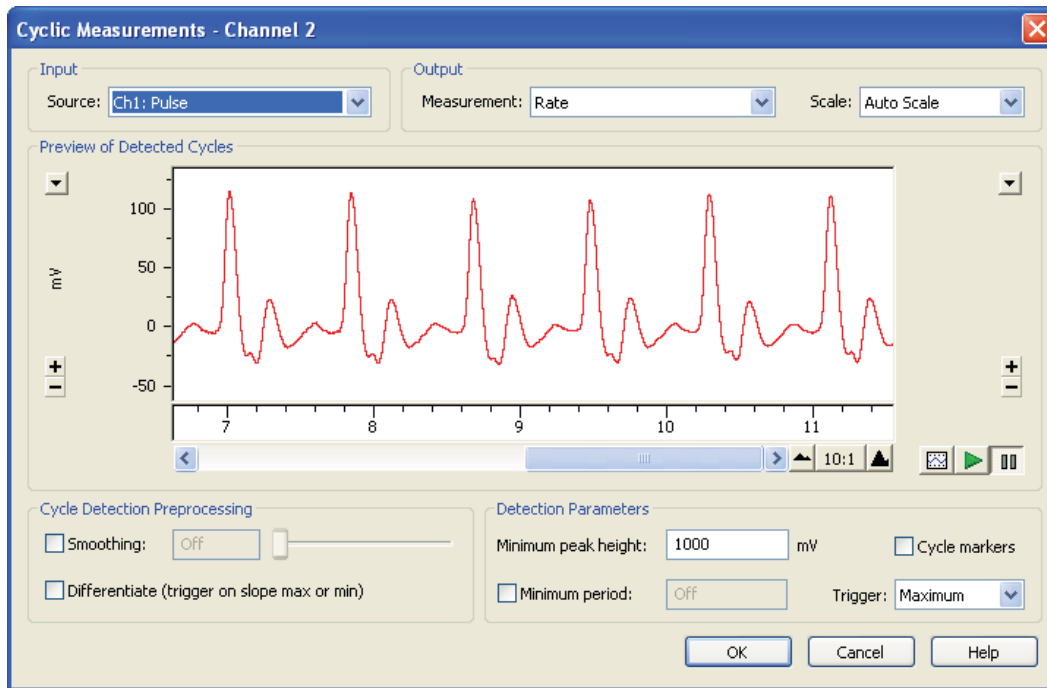

Figure 2: Cyclic Measurements dialog showing a pulse wave in the signal display area
4. Choose the channel or input that has the data of interest from the Source drop-down list. The source data to be measured may be a signal available from an input, raw data already recorded in a channel, or the result of a channel calculation. The signal will appear in the signal display area (Figure 2).